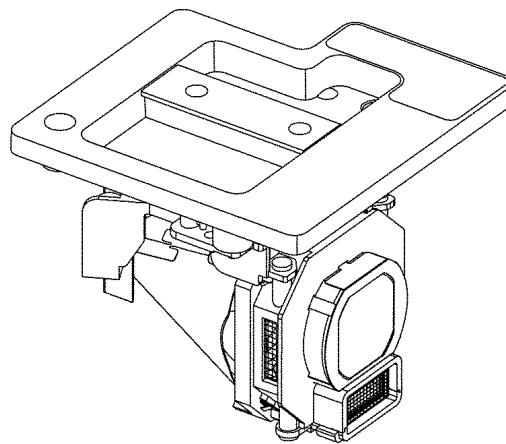

Fig.3
- Because the high pressure lamp involves a risk of failure, never touch the lamp wire lead during the service. (See Fig. 3)